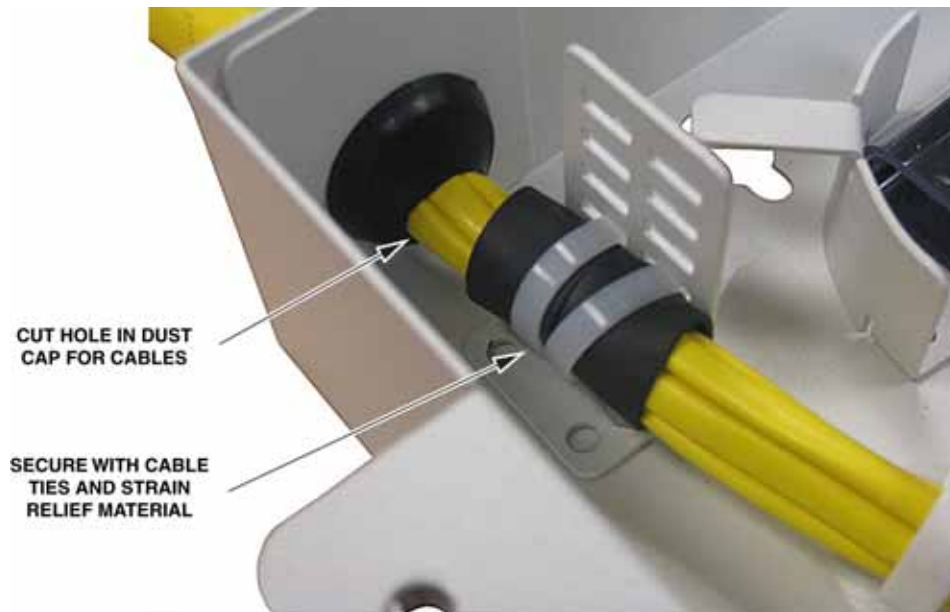

Figure 6. Lashing Cables to Cable Tie Down Plate – Typical Example
5. Secure the cable to the cable tie down plate using two cable ties as shown in Figure 6. Wrap strain relief material around the cable to prevent the cable from being excessively compressed by the cable ties. Use two cable ties to secure the cable to the bracket.